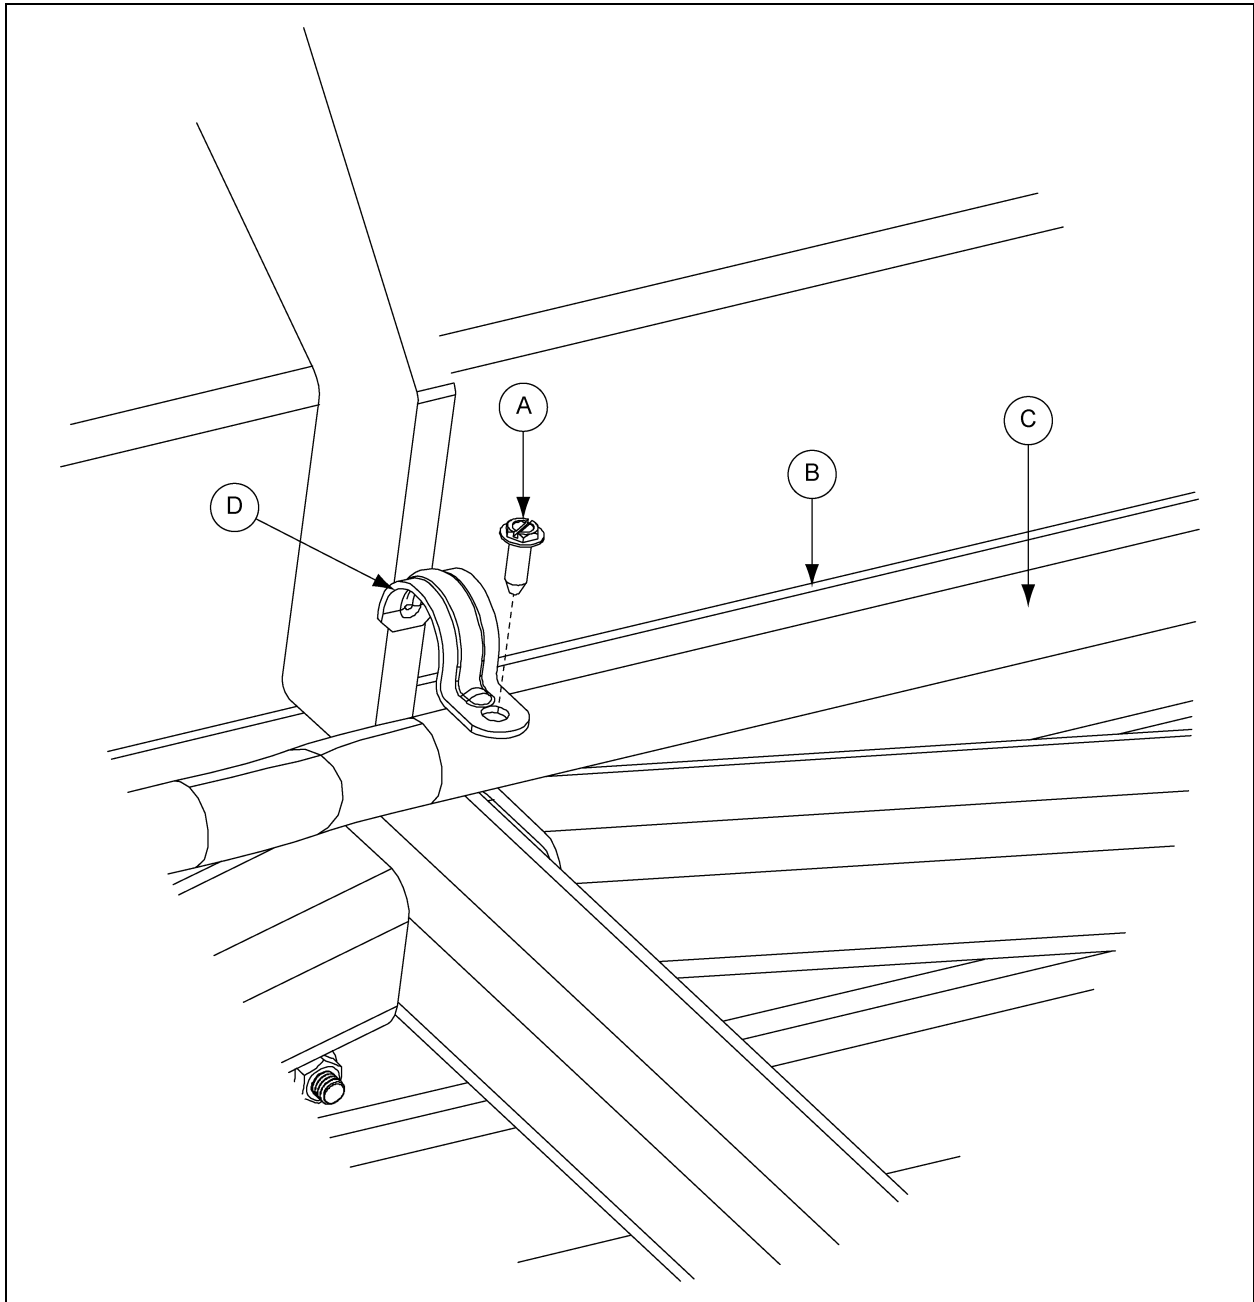

Figure 4BK
1. Install conduit (C) to sweep shield (B) using clamps (D) and screws (A). (See Figure 4BK.)